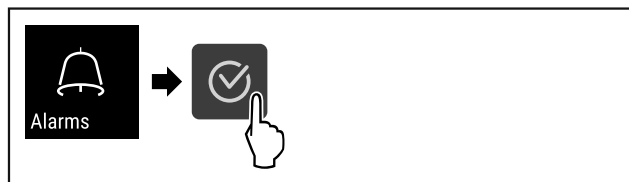

Fig. 141
- ▶ Carry out steps (see Fig. 141).